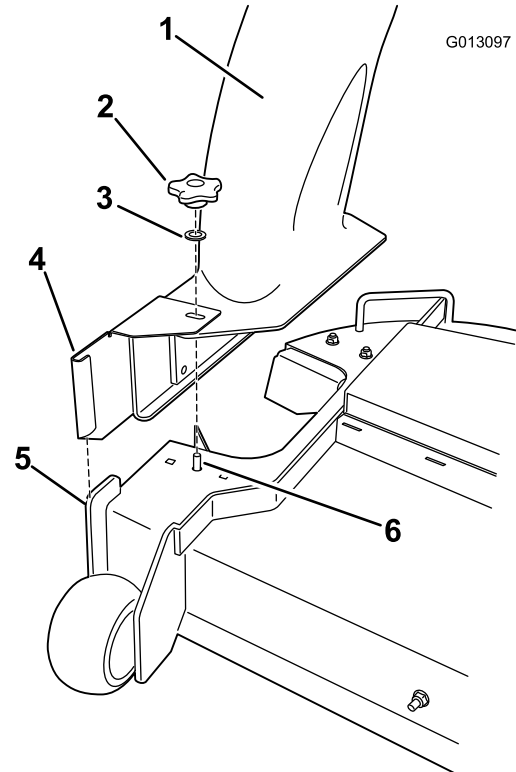

Figure 11
Note: Ensure that the opening in top of the chute aligns with the exposed post on the mower deck top and the forward vertical plate mates with the folded metal bracket of the chute (Figure 11).
- Install a washer and hand knob over the post coming through the chute top (Figure 11).